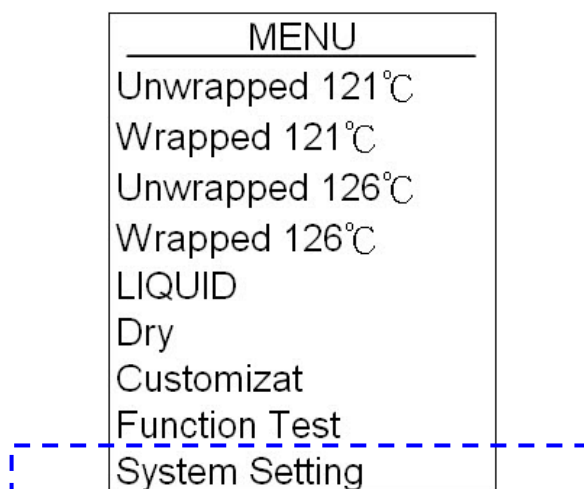
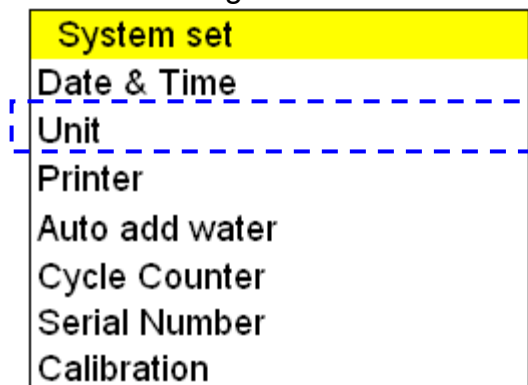

Figure 118
Figure 119
- A. Press  or  button to select System Setting program (Figure 118), and then press  button to select Unit setting, as shown in Figure 119.